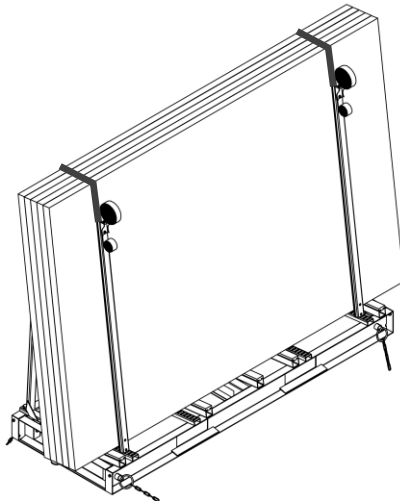

Figure 2.4
Step 3: Install ratchet securing bars (Figure 2.4)